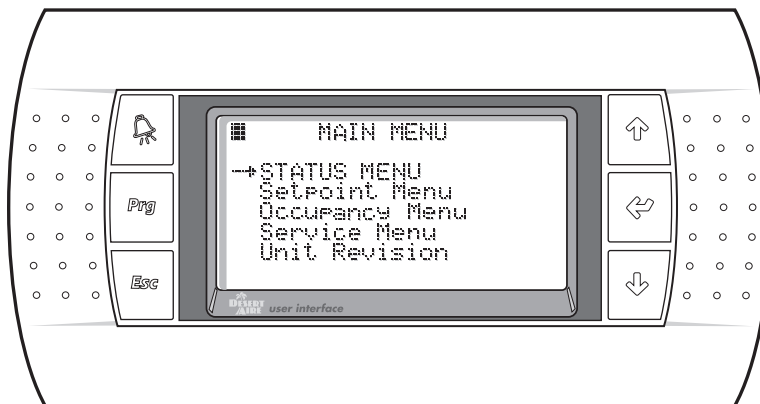

Figure 5
2.2. Main Menu (Figure 5)
Pressing the **Esc** key from the Home Screen displays the MAIN MENU (Figure 5). This menu allows the operator to select the STATUS MENU, Setpoint Menu, set a Temporary